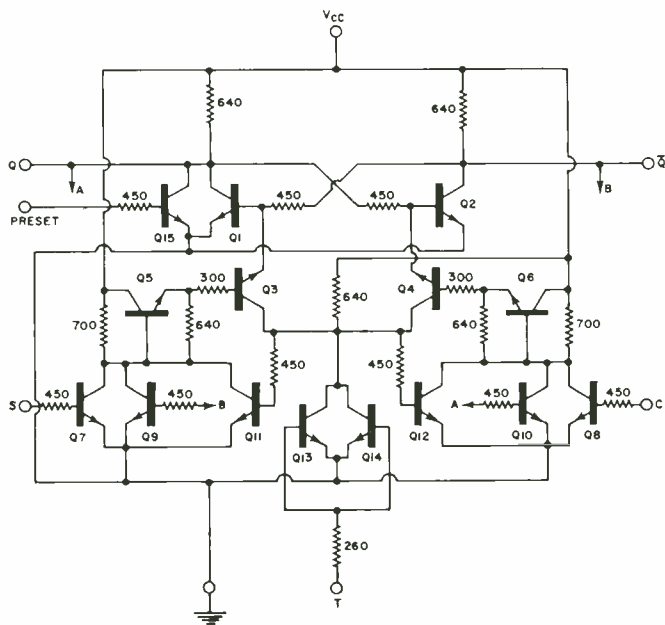
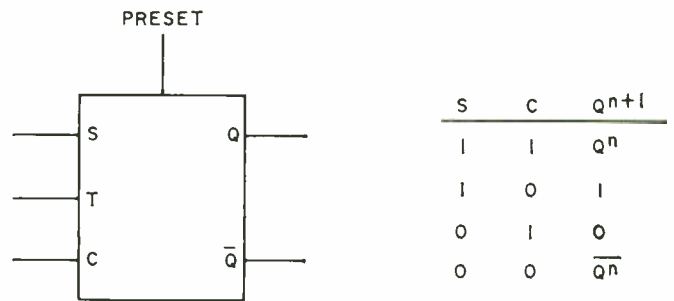

Fig. 6. Schematic diagram of typical JK flip-flop circuit. This complex circuit is readily fabricated on an IC chip.
Fig. 7. Logic symbol and truth table for the JK flip-flop.
Fig. 6 is a schematic diagram of a typical JK flip-flop. Its associated logic symbol and truth table appear in Fig. 7. The JK flip-flop is the basic building block for logic-element counters and frequency dividers.
Whether or not the FF changes state at the instant the CP arrives depend on (a) the state of the FF just prior to the arrival of the CP, (b) the level of input S just prior to the arrival of the CP, and (c) the level of input C just prior to the arrival of the CP. The S and C columns of the truth table in Fig. 7 list all possible combinations of levels that might be present on S and C just prior to the arrival of the CP. The Q^{n+1} column shows the corresponding FF states that will exist after the arrival of the CP. The term Q^n represents the FF state that existed prior to the arrival of the CP. The term $\overline{Q^n}$ represents the FF state that is the opposite of that which existed prior to the arrival of the CP.
The gate of Fig. 1, the buffer of Fig. 3, and the JK flip-flop of Figs. 6 and 7 are readily available commercial integrated circuits. The devices used by the author are members of the *Fairchild* Industrial Resistor-Transistor Micrologic integrated circuit family. These three devices are available in economy epoxy-encapsulated packages. The *Fairchild* part numbers and prices (for quantities of 1 to 99) in effect at the time of this writing are: 9914 medium-power dual two-input gate, part number U8A991428, \$0.80 each; 9900 medium-power buffer, part number U8A990028, \$0.80 each; 9923 medium-power JK flip-flop, part number U8A992328, \$1.50 each. Comparable units available in the *Motorola Semiconductor Products Inc.* MC700P series line are: MC724P quad two-input gate, MC799P dual buffer, and MC723P JK flip-flop or MC790P dual JK flip-flop.
The 9914 contains two gates like the one in Fig. 1. The package pin connections are shown in Fig. 8A. The 9900 contains one buffer like the one in Fig. 3. The package pin connections are shown in Fig. 8B. The 9923 contains one flip-flop like the one in Figs. 6 and 7. The package pin connections are shown in Fig. 8C. The FF will operate to at least 2 MHz.
Fig. 8. (A) Pin connections for the U8A991428 two-input gate containing two of the gates shown in Fig. 1. (B) Pin connections for the U8A990028 buffer shown in Fig. 3. (C) Pin connections for the U8A992328 JK flip-flop shown in Fig. 6.